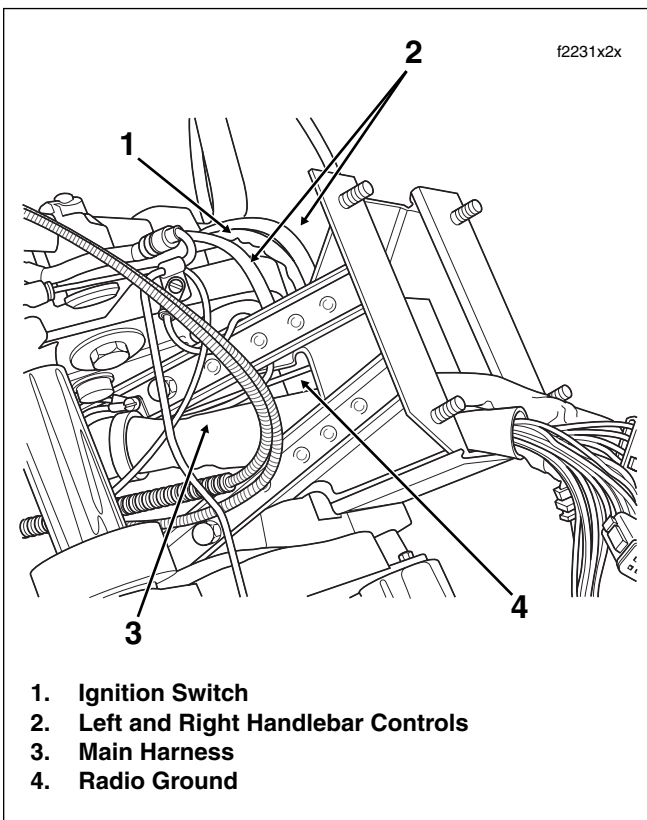

Figure 2-182. Route Main Harness and Conduit Thru Fairing Bracket
2. Route handlebar switch control conduit through opening at top of fairing bracket. See Figure 2-182.
3. Route main harness and both radio ground and harness ground ring terminals through opening on right side of fairing bracket. See Figure 2-182.